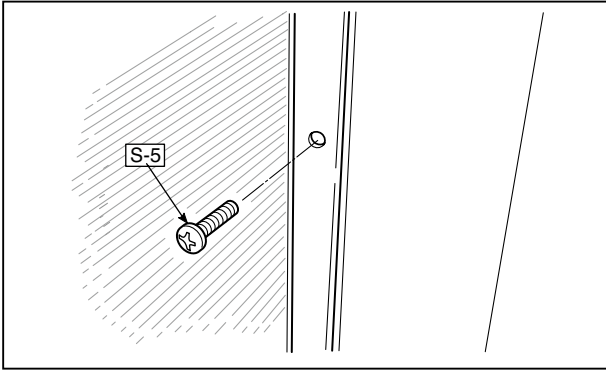

Fig.20
### 15) Remove the Back Panel Unit. (See Fig. 20 and 21)
1. Remove the "S-5" screws shown in the figure 20.